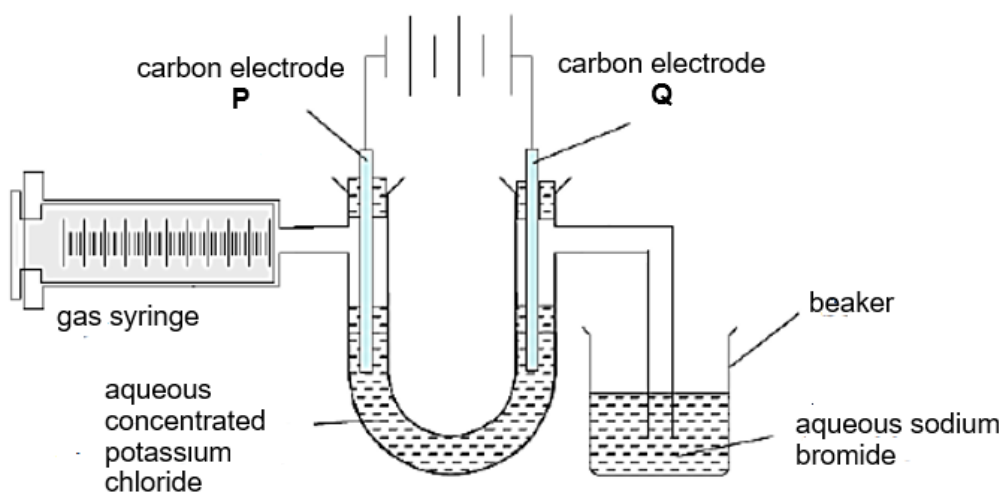

Fig. 3.1
- 3 (a) A student investigated the electrolysis of concentrated aqueous potassium chloride using the set-up as shown in Fig. 3.1.